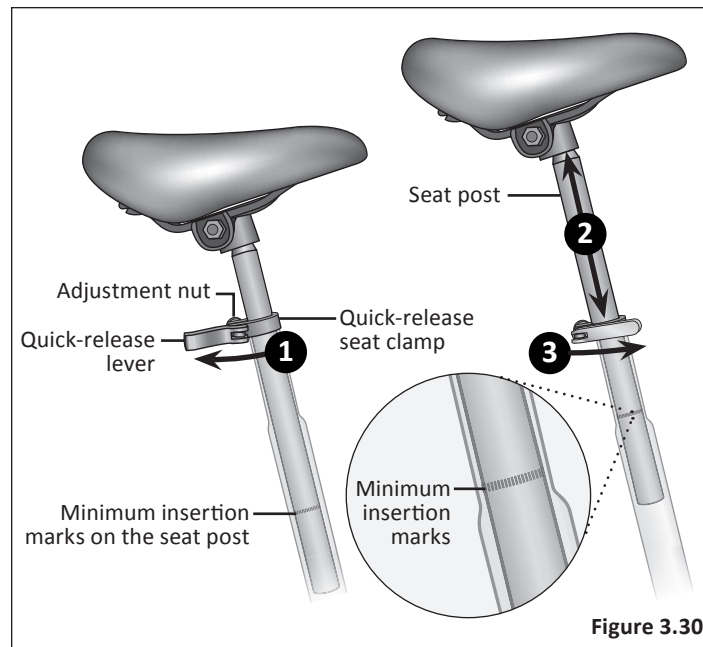

Figure 3.30
- 1 Unlock the quick-release lever and insert the seat post into the seat tube. **Figure 3.30**